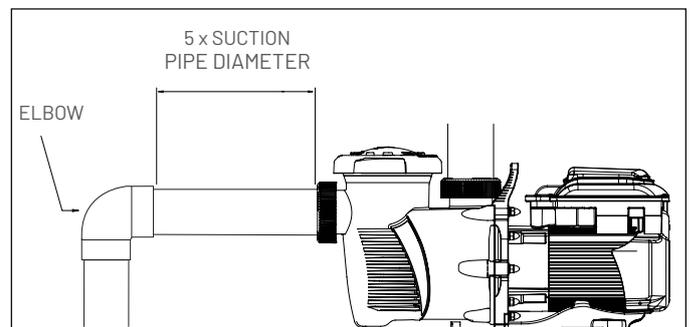

Figure 2: Recommended Piping
4. For most installations Pentair recommends installing a valve on both the pump suction and return lines so that the pump can be isolated during routine maintenance. However, we also recommend that a valve, elbow or tee installed in the suction line should be no closer to the front of the pump than five (5) times the suction line diameter. Independently support the pipe near the suction and discharge of the pump in order to reduce the strain on the pump. Avoid overtightening pipe connections. Use only pipe sealants formulated for plastics. Do not use petroleum based products. It is essential that the suction line is free of air leaks. The suction line should always be at least the same size as the suction inlet of the pump. See Figure 2.